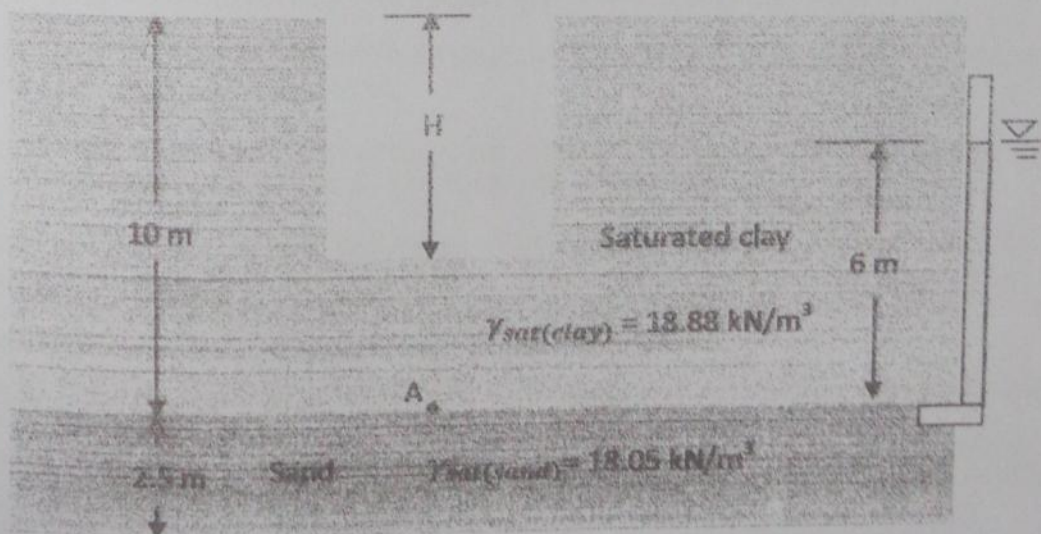

Fig. 3
10. A 10 m thick layer of stiff saturated clay is underlain by a layer of sand. The sand is under artesian pressure, as shown in Fig. 3. Calculate the maximum depth of cut H that can be made in the clay. 15